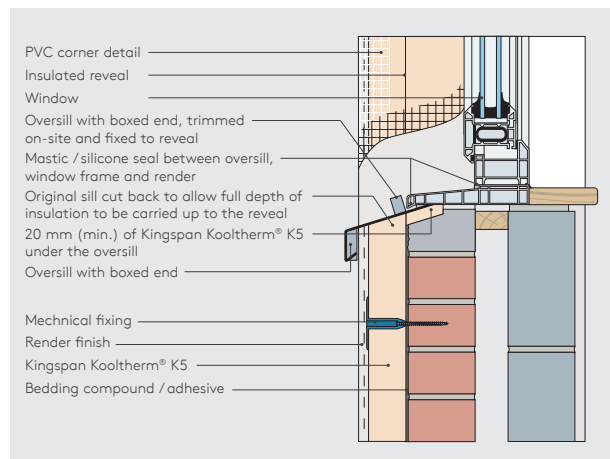

Figure 9 - Overall Extension Detail (Refurbishment)
- In refurbishment projects, sill extenders and flashings should be used around openings, with care taken to avoid cold bridging (see Figure 9).